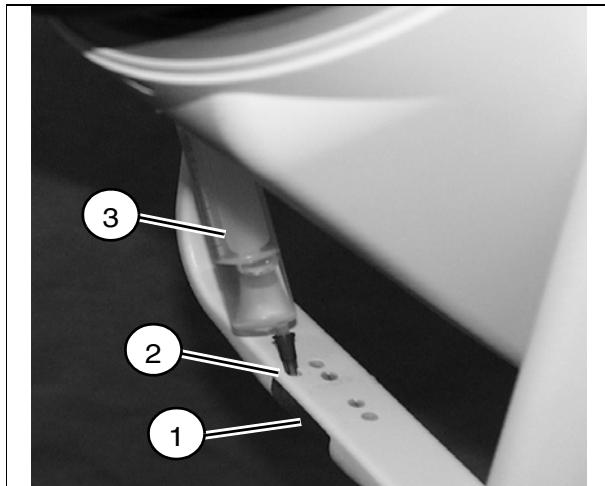

Fig. 12
- Check whether the isocenter phantom (1/Fig. 12) is filled with water; if not, remove screw (2/Fig. 12) and fill in water with a syringe (3/Fig. 12).